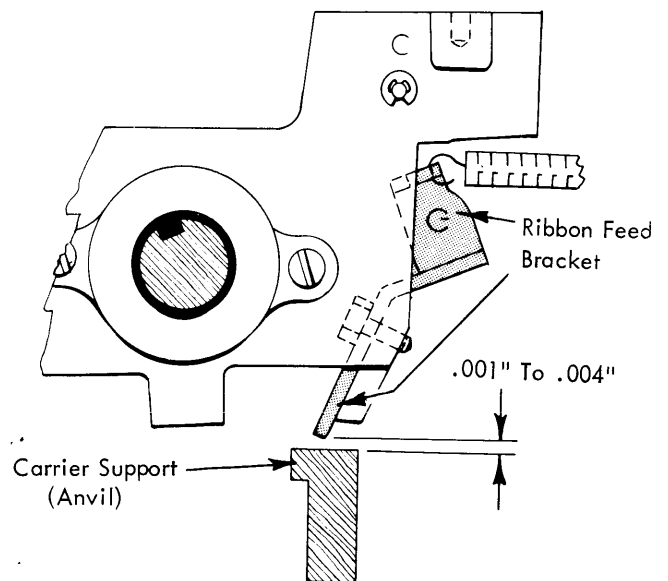

FIGURE 80. Carrier Support (Long Carriage Machines)
6. Carrier Support (long carriage machines) - Adjust both ends of the support vertically to maintain .001" to .004" clearance with the bottom of the ribbon feed bracket along the entire length of the writing line (Fig. 80).